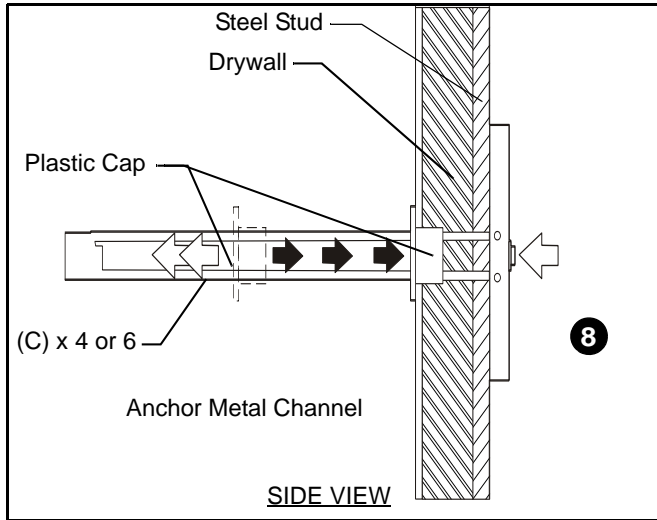

Figure 17
7. Holding plastic straps on anchor (C), pull anchor away from wall until channel rests flush behind wall making sure anchor channel is positioned vertically on stud. (See Figure 17)
8. Slide plastic cap on anchor (C) towards wall until flange of cap is flush with wall. (See Figure 17)